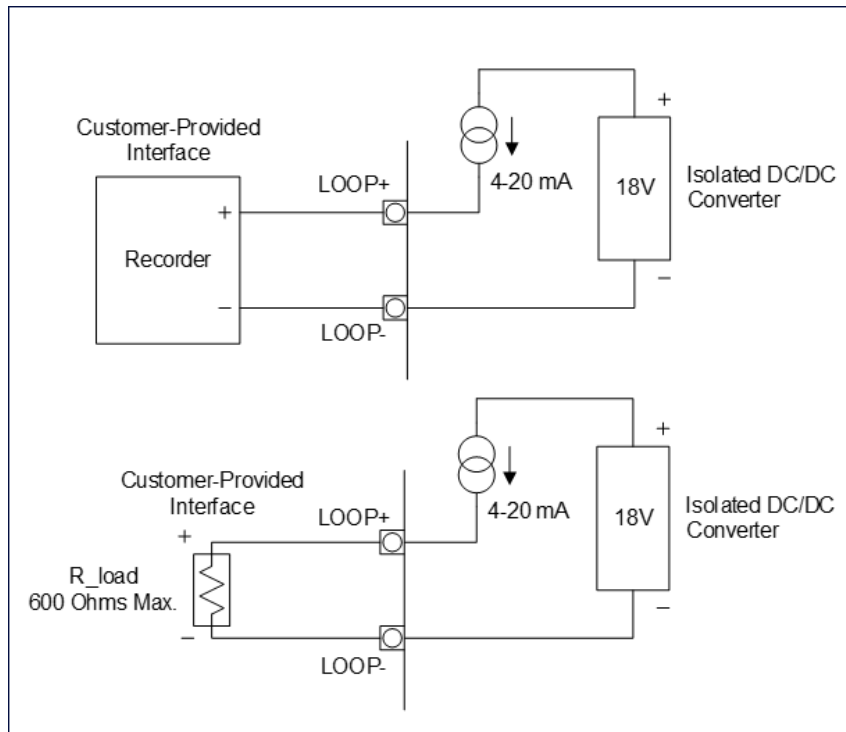

Figure 3-3: Typical 4-20 mA Circuit Applications
- 4-20 mA Analog Current Loop Outputs — Table 3-2, "4-20 mA Analog Outputs \(J4\)," on page 69 and "Figure 3-3: Typical 4-20 mA Circuit Applications" on page 70.
The data from the Analyzer can be recorded using the 4-20 mA outputs located on the J4 terminal block. Refer to the following pin-out information (Table 3-2.) and typical circuit applications (Figure 3-3) when installing 4-20 mA Analog output wiring.